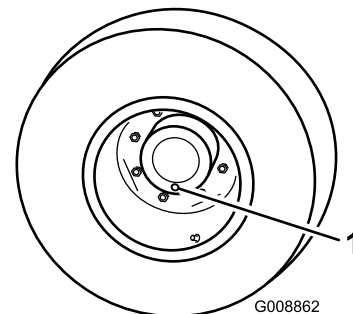

Figure 48
1. With the machine on a level surface, position a wheel so that 1 of the check plugs is at the lowest (6 o'clock) position (Figure 48).